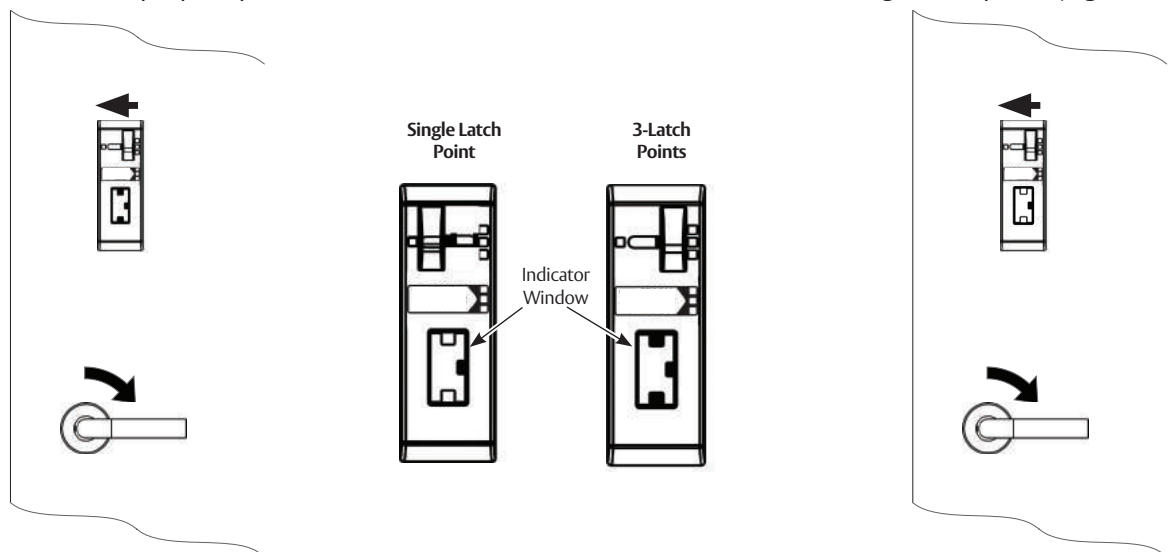

Figure 32
6. Check for proper operation. Rotate lever until indicator window shows a single latch point. (Figure 32)